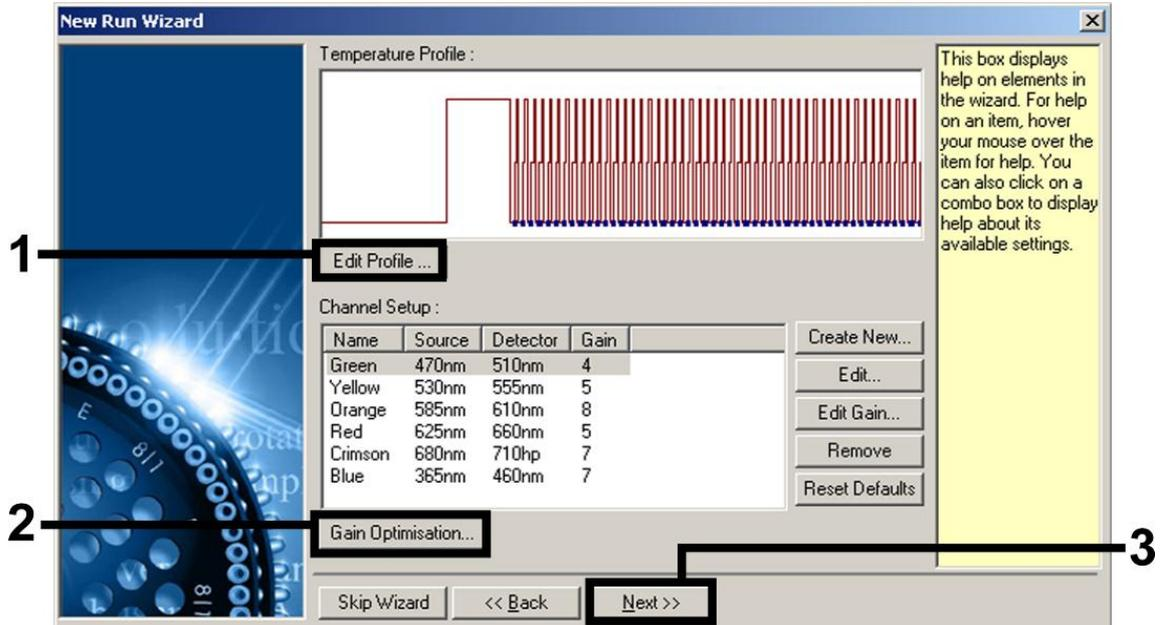

Figure 7. Editing the profile.
- Click the “Edit Profile” button in the next “New Run Wizard” dialog box (Figure 7), and program the temperature profile as shown in Figures 7–10).
9. The detection range of the fluorescence channels has to be determined according to the fluorescence intensities in the PCR tubes. Click "Gain Optimisation" in the "New Run Wizard" dialog box (see Figure 7) to open the "Auto-Gain Optimisation Setup" dialog box. Set the calibration temperature to 50 to match the annealing temperature of the amplification program (Figure 11).